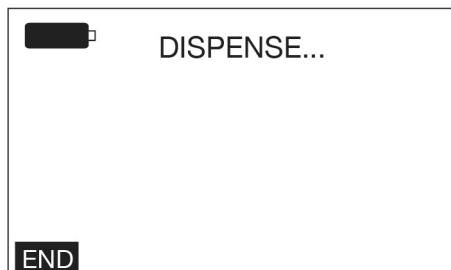

FIG. 15
6. Select ACTIVATE and press the ENTER button. DISPENSE (as shown in FIG. 15) displays on the screen.